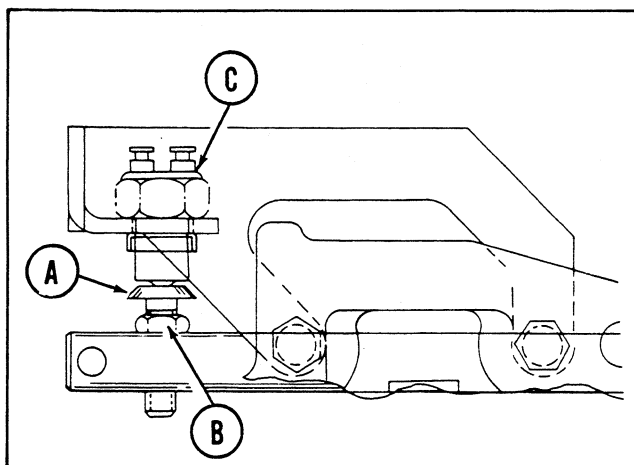

Figure 14. Neutral safety start switch located under seat deck.
3. See figure 14. Adjust carriage bolt (A) to proper height